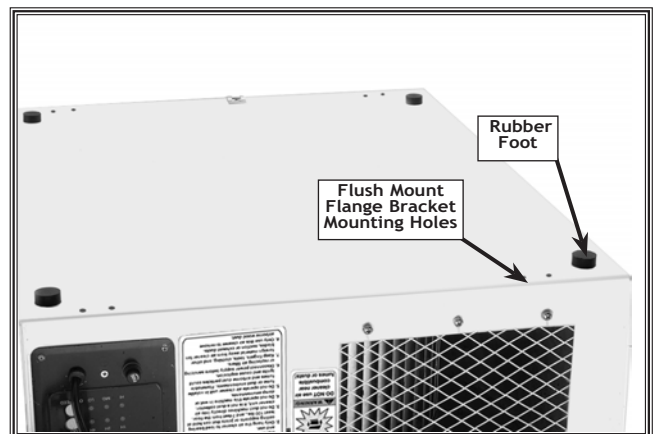

Figure 6. Rubber feet correctly installed (Underside View).
2. Expose the sticky backing on the foot, and affix the rubber foot to the bottom of the air filter unit. See Figure 6.